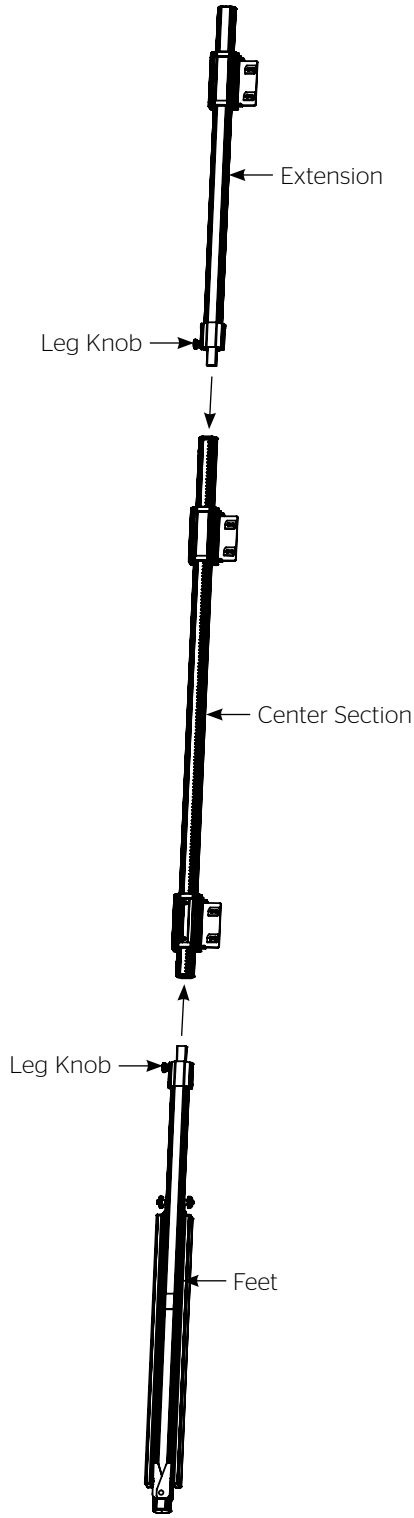

Figure 4
3. Assemble the legs by sliding the three sections together and tightening the Leg Knobs. See Figure 4.